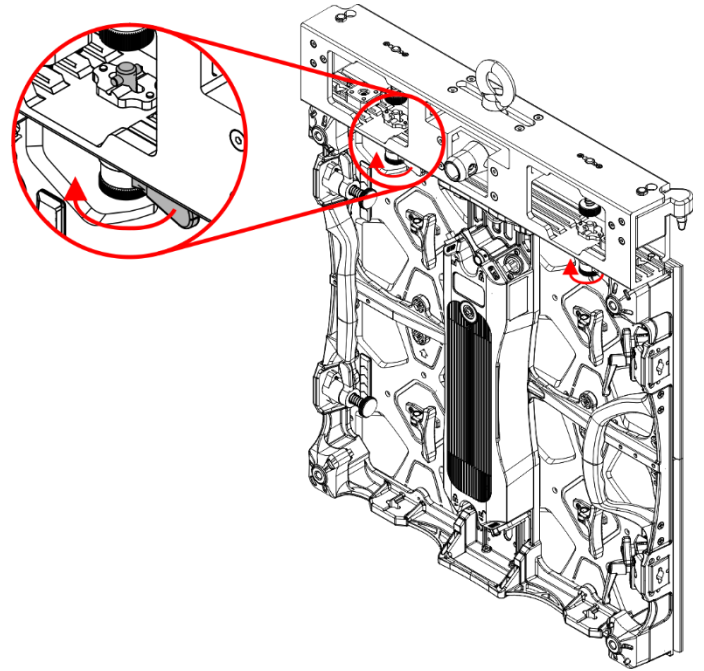

Fig. 35
- 05) Turn the **lever (C)** clockwise to tighten it to the device, as shown in Fig. 35 and 36.